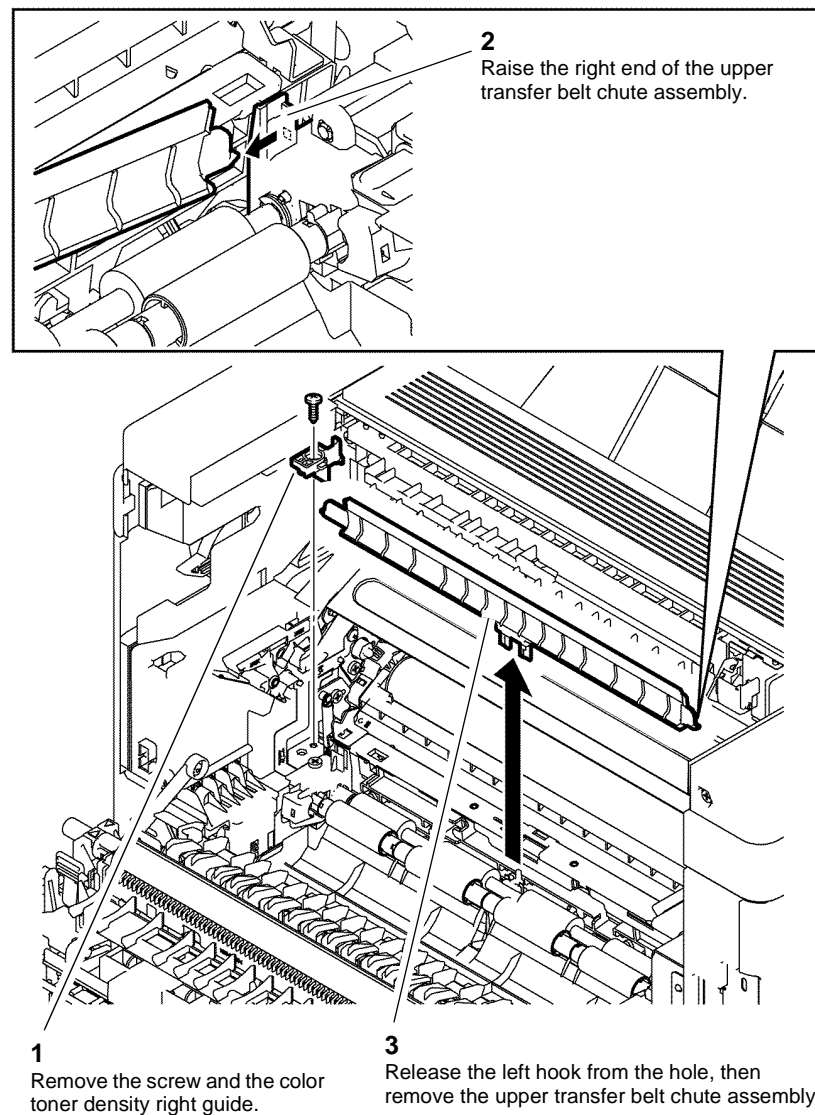

Figure 1 Upper transfer belt chute assembly
3. Remove the upper transfer belt chute assembly, Figure 1.